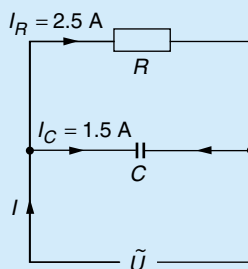

Figure 61
9. The resultant current I in Figure 61 is